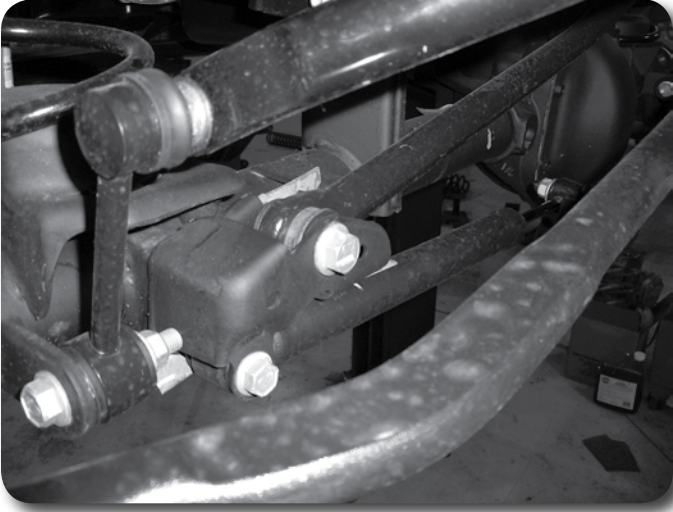

Figure 1
1. Locate and disconnect the front track bar from the passenger's side axle bracket. **Figure 1**